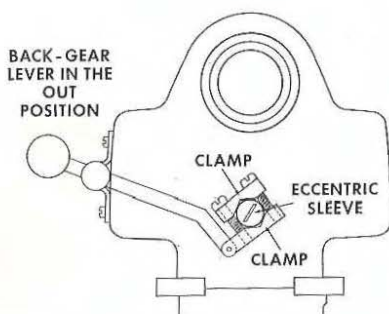

FIG. 13
3. Loosen and remove both screws in back gear lever clamps (see Figure 13).
2. Loosen back-gear lever clamp screws — see Figure 13.